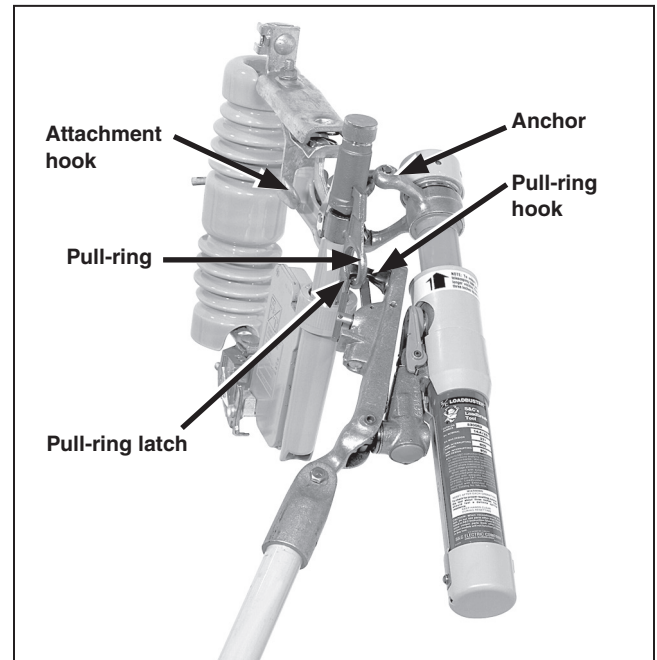

Figure 9. A Loadbuster tool connected to a Fault Tamer Fuse Limiter.
- STEP 2.** Reach the Loadbuster tool across in front of the Fault Tamer Fuse Limiter and hook the anchor, located at the top of Loadbuster tool, over the attachment hook on the far side of the Fault Tamer Fuse Limiter. See Figure 9.